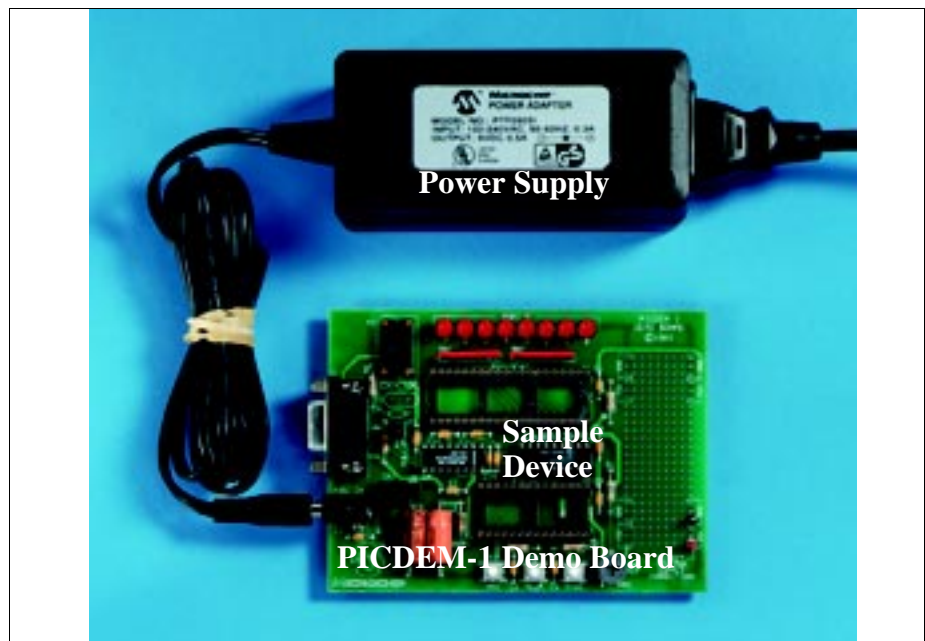

Figure 2.1: PICDEM-1 Stand-Alone
- Apply power to the PICDEM-1 (Figure 2.1). For information on acceptable power sources, see Appendix A.